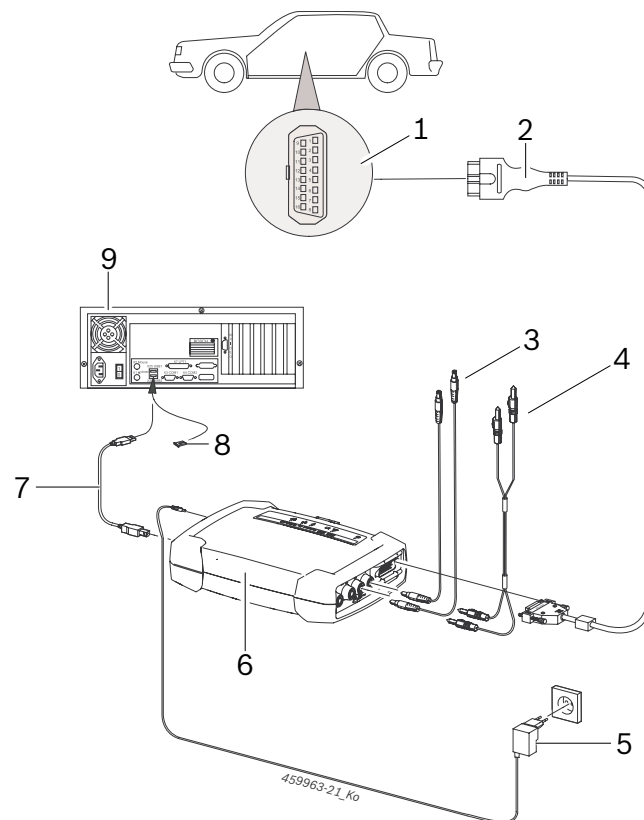

Abb. 6: Connection diagram for the KTS 590 as example
- the OBD connection cable (fig. 6, item 2) or